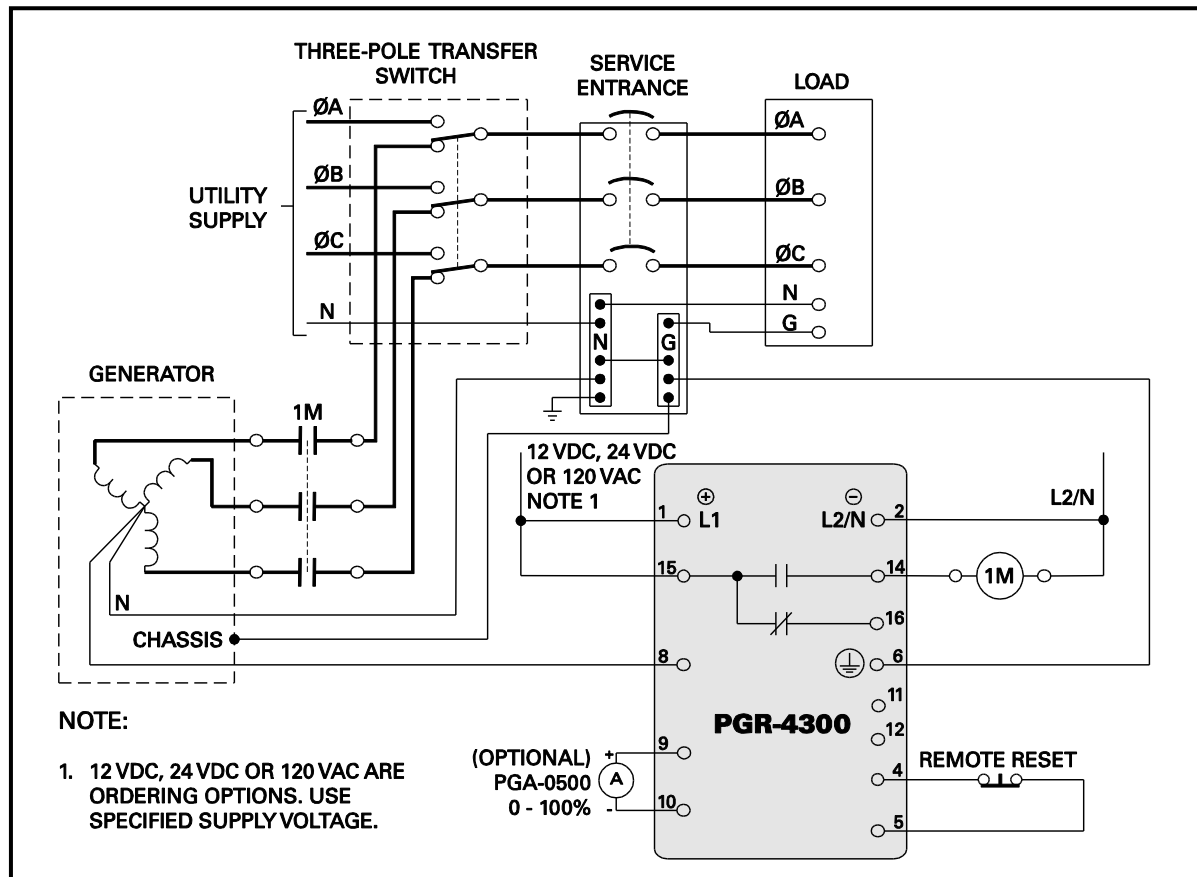

FIGURE 2. Three-Pole Transfer Switch Typical Connection Diagram.
In a three-pole transfer-switch application, the generator neutral and system neutral are connected to ground at the service entrance. The connection between the generator neutral and service-entrance ground is assumed to have a resistance of 2 m $\Omega$  and voltage across this conductor is measured to calculate ground-fault current. See Fig. 2. The selection of a neutral-bonding conductor can be made using NEC 250.102(D) and 250.122, and calculating the conductor length needed for a 2 m $\Omega$  resistance.
A non-isolated, 0- to 1-mA output (terminals 9 and 10) indicates ground-fault current. Full-scale corresponds to the ground-fault level setting. For example, if the ground-fault level setting is 300 A, then 1 mA output will be indicated when the measured current is 300 A. The output is linear between zero and full scale. See Figs. 2, 3 and 4 for PGA-0500 meter details.
Terminals 4 and 5 are used for remote reset. A normally closed contact switch is required to configure the PGR-4300 for latching operation. See Section 2.2.3 and Figs. 2 and 3.
This ground-fault monitoring system consists of a PGR-4300 Generator Ground-Fault Relay connected as shown in Figs. 2 and 3.
For a three-pole system, connect terminal 8 to the generator neutral, and terminal 6 to the local ground. See Fig. 2.